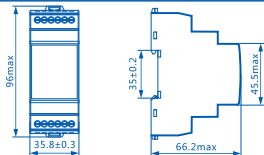

Figure 1 Overall and installation size of NJYB3
3.1 Overall and installation size: see Figure 1, unit: mm.